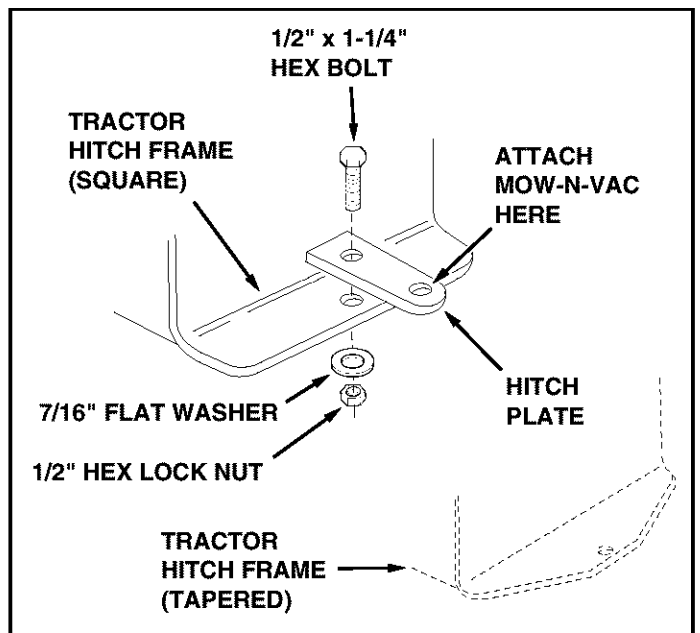

FIGURE 21
- (1) 3/4" Wrench - (2) if hitch plate in fig. 21 is used
Use a 1/2" x 1-1/4" hex bolt, a 7/16" flat washer and a 1/2" hex lock nut. See figure 21.